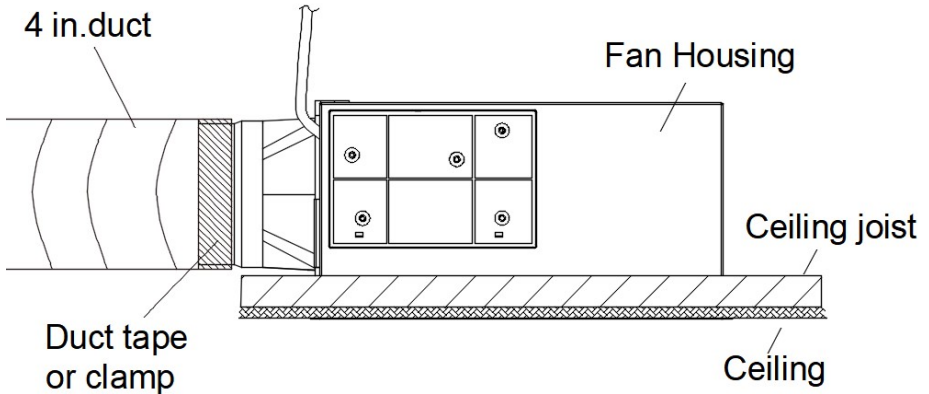

Fig.6.
7. Install a circular 4 in. duct (not included) and secure it with duct tape or clamps (neither included). Finish ceiling work. Ceiling hole should be aligned with edge of fan housing. (See the Fig.6.)